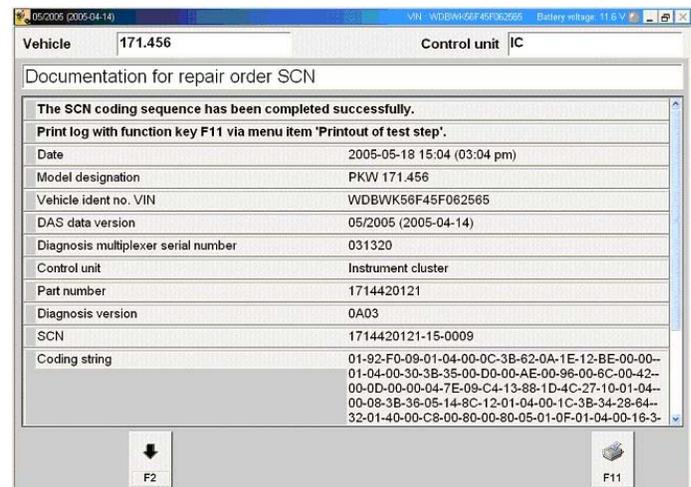

Figure 16
3. The SCN Coding process is now complete when this documentation page appears (Figure 16). Press 'F11' to get a printout for your records. Remove the CD from the SDS.